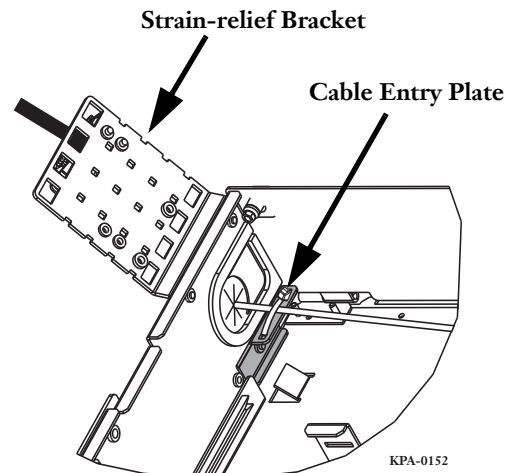

Figure 7 — Secure Cable to Entry Plate
Step 3: Secure cable to cable entry plate using a loose cable tie (Figure 7). Do not overtighten cable tie.